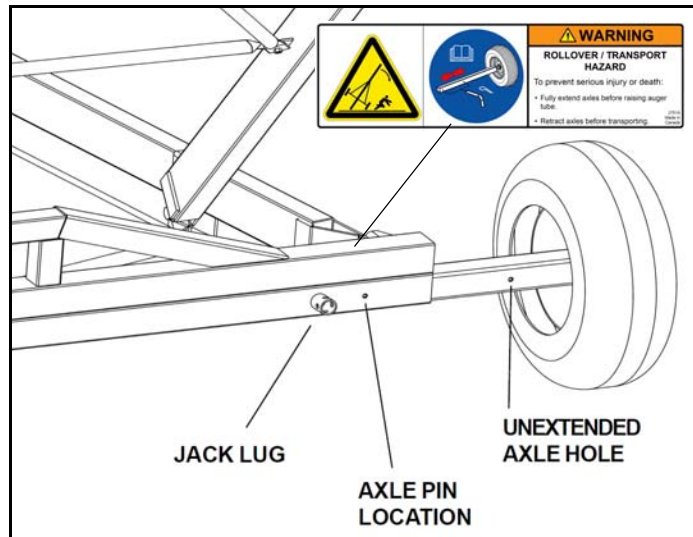

Figure 4.5
1. Using the jack supplied, insert it into one of the jack lugs located on one end of the axle (Figure 4.5). Jack must be secured to jack lug using pin (attached to jack).
3. Remove the axle pin from the axle and slide the axle outwards 16" (40.6 cm) until the second set of holes line up (Figure 4.5). Reinsert the pin and secure with snap pin. Lower the jack.